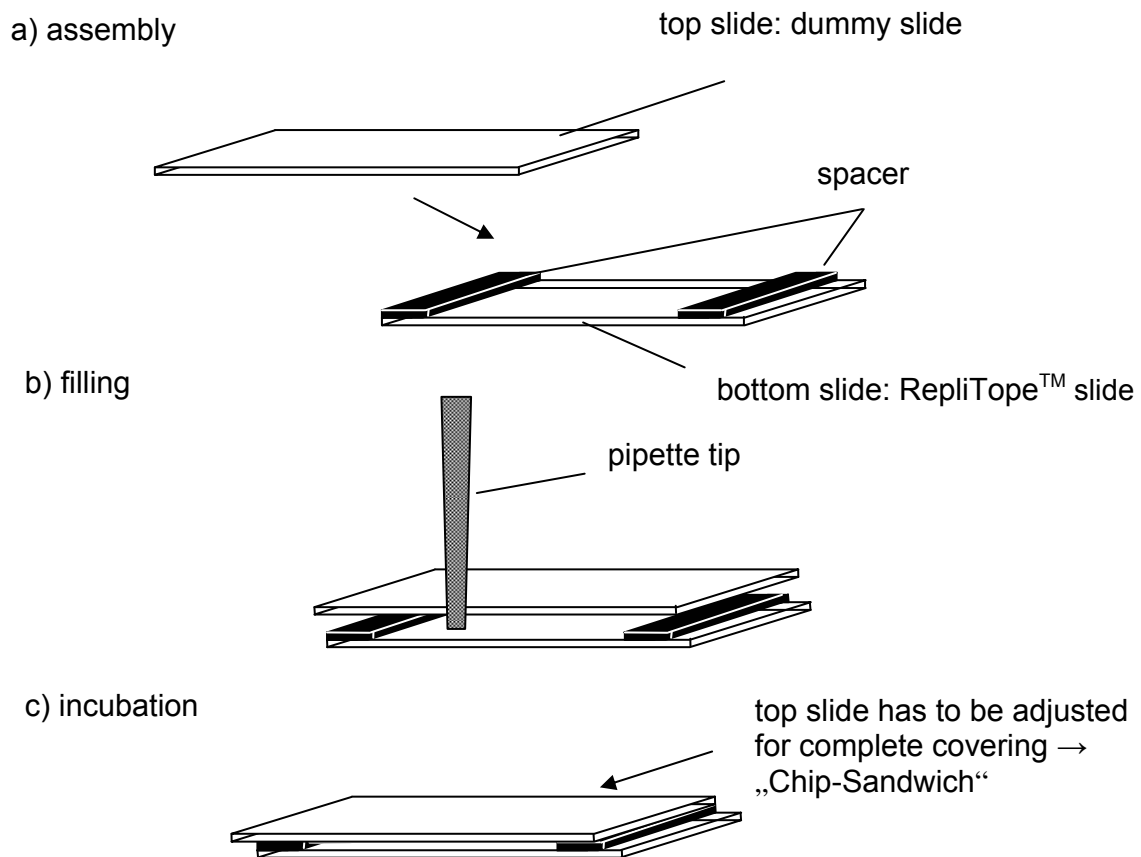

Figure 7: Assembly of a chip sandwich.
To create a simple incubation chamber, two slides, one displaying the peptides and another slide (dummy slide) without any peptides, have to be assembled according to Figure 7 in a sandwich-like format. If two peptide microarrays are to be screened in parallel, the top slide would be another peptide-displaying chip. Please make sure that in such a case the two peptide-displaying sides are facing each other. The two slides are separated by two spacers.
- VII. Adjust the peptide microarray sandwich as described in point 6.1.2 and Figure 7.